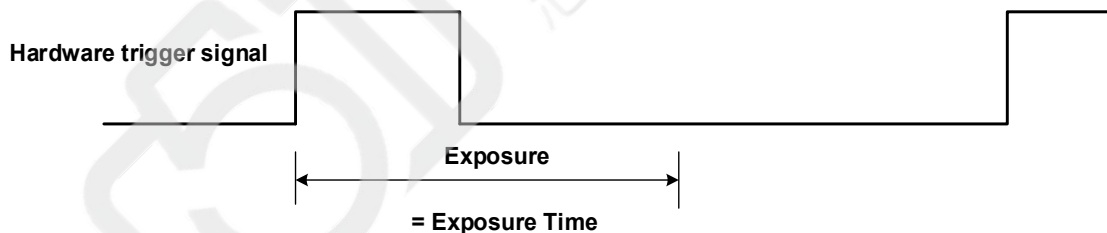

Figure 8-26 The sequence diagram in rising edge trigger of Timed exposure mode
- If rising edge triggering is enabled, exposure starts when the trigger signal rises and continues until the exposure time has expired, as shown in Figure 8-26.